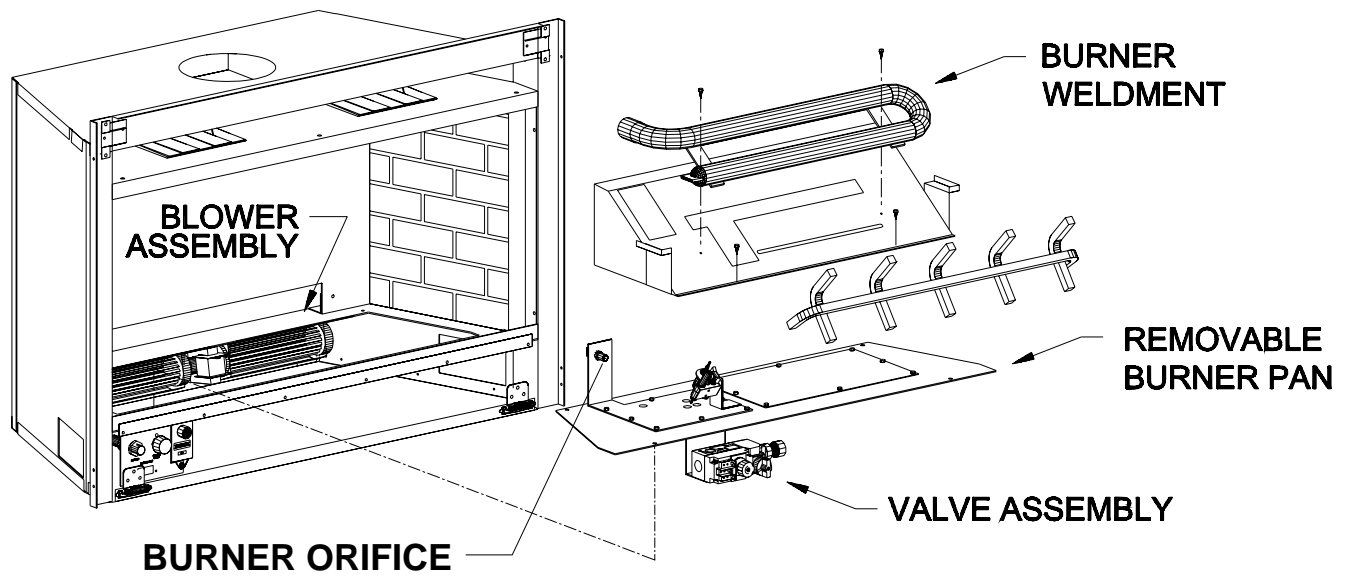

FIGURE 15
1. Refer to FIGURE 15. Disconnect power to fireplace and blowers.